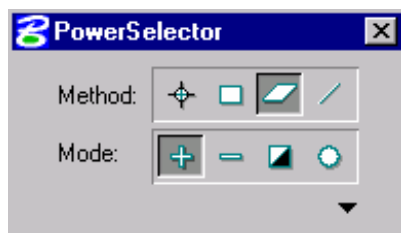

Figure 3-22: Power Selector set to shape
**Using the Power Selector** - The power selector works well for selecting single or multiple text blocks because of the various selection methods. You can also add and subtract from your selection set easily. Choose *Shape* method and choose the "+" in the mode field (Figure 3-22).